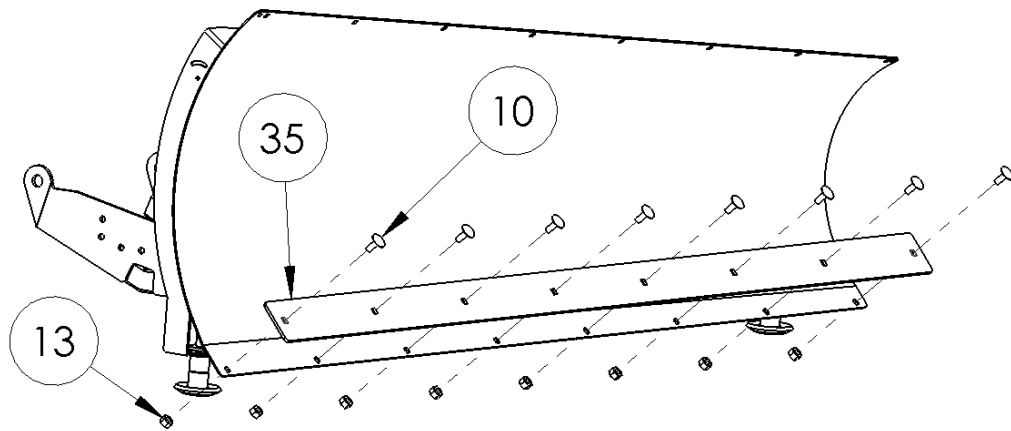

Figure 9
- a. (1) Blade (#34)
- b. (1) Wear Bar (#35)
- c. (1) Rubber Flap (#37)
- d. (1) Flap Hold Down Bar (#36)
- e. (2) Flag Markers & Hardware Kits (#25)
- 7) Install the Wear Bar (#35) to the bottom of the Blade using the 3/8" Carriage Bolts (#10) and Nylock Nuts (#13) included in your kit. **(Figure 9).**